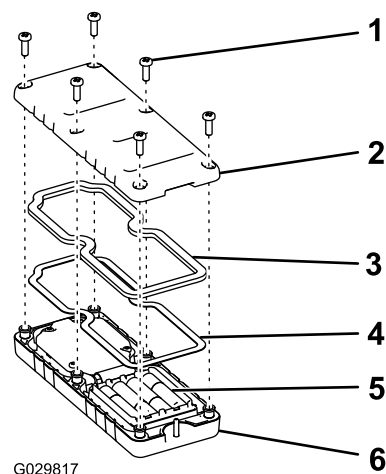

Figure 31
1. Remove the 6 screws from the back of the remote and remove the cover (Figure 31).
5. Replace the cover and secure it with the 6 screws removed previously (Figure 31) and torque them to 1.5 to 1.7 N-m (13 to 15 in-lb).